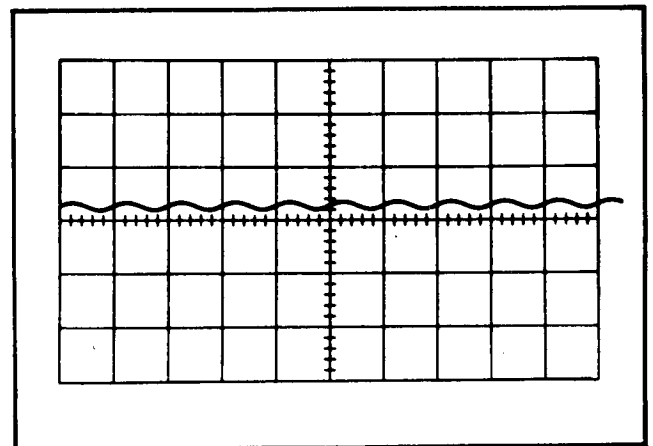

Fig. 6-34. Typical CRT display when checking high-frequency reject operation at 50 kilohertz.
c. CHECK-Stable CRT display (see Fig. 6-34) can be obtained with the B LEVEL control.
- i. CHECK-Stable CRT display (see Fig. 6-34) can be obtained with the A LEVEL control.